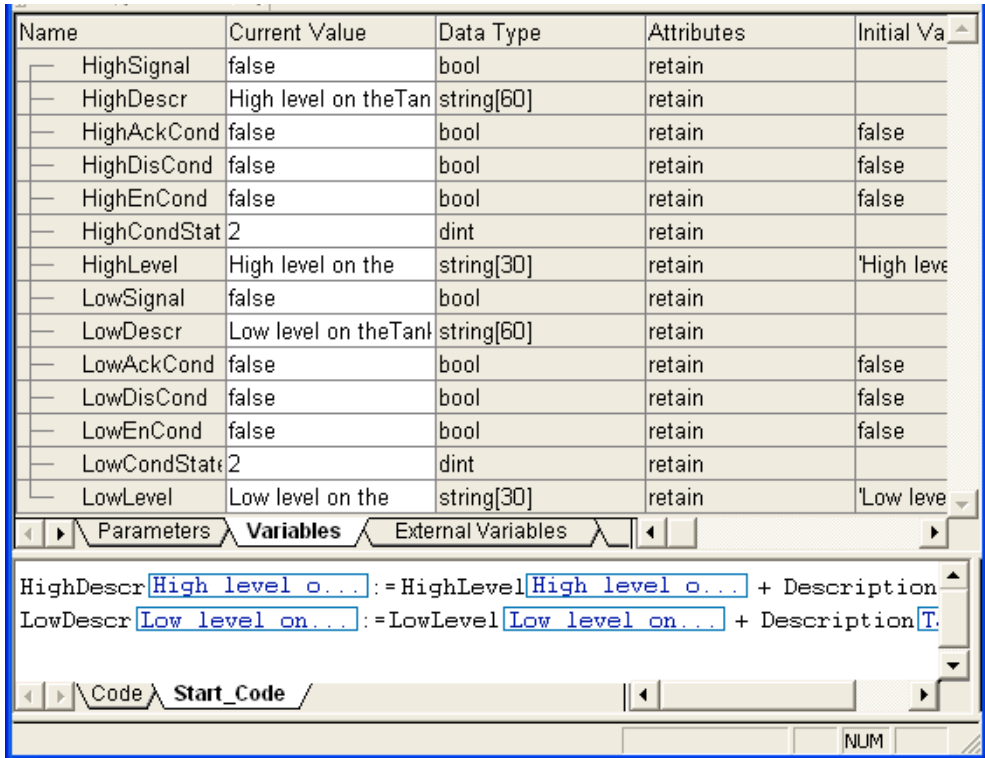

Figure 126. Part of Online editor for Tank11.
- Under Applications, alarmsimple\_m, and Control Modules, double-click Tank11 or Tank12. The corresponding online editor is displayed (Figure 126).